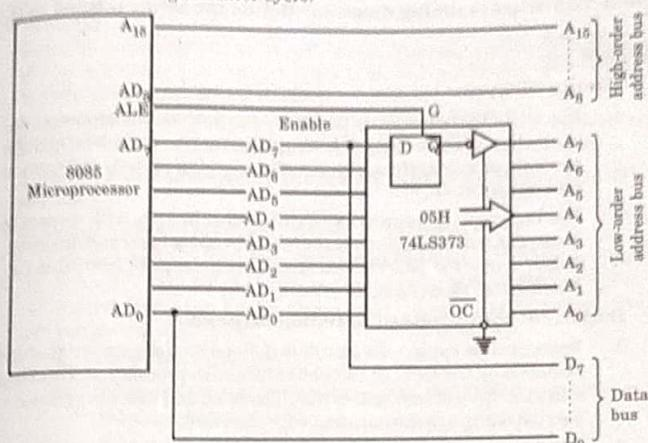

Fig. 1.11.1.
4. To achieve this, the data bus  $AD_9 - AD_7$  is needed to be demultiplexed. Fig. 1.11.1 shows the use of latch and ALE signal to demultiplex the bus.